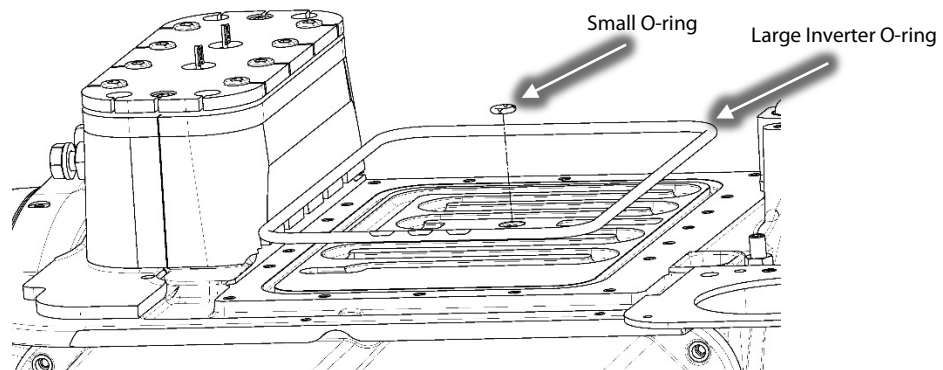

Figure 23 – Inverter O-ring Installation
5. Apply O-Lube to the Inverter O-ring provided and place the O-ring in the compressor housing groove. Refer to Figure 23 (Inverter O-ring Installation).